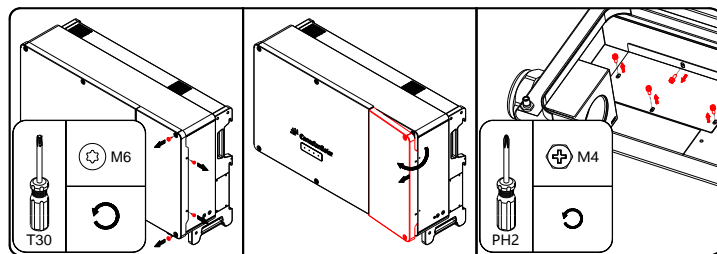

Figure 3.7-5 Open the junction box and remove the communication board protective cover
- 4) According to Figure 3.7-5, first open the junction box; then remove the communication board protective cover.
- 9) After the wiring is completed, replace the communication board protective cover and close the junction box in the reverse order of Figure 3.7-5. M4 torque: 1.5N.m, M6 torque: 4.5N.m.